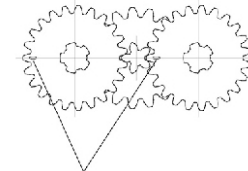

Figure 3 - Twin Gear Timing Marks
- 2 Assembly is the reverse of disassembly. The twin gears each have an "O" stamped on them which is used as a timing mark. The twin gears must be installed so that the timing marks both point to exactly the 9 o'clock position at the same time (See Figure 3).